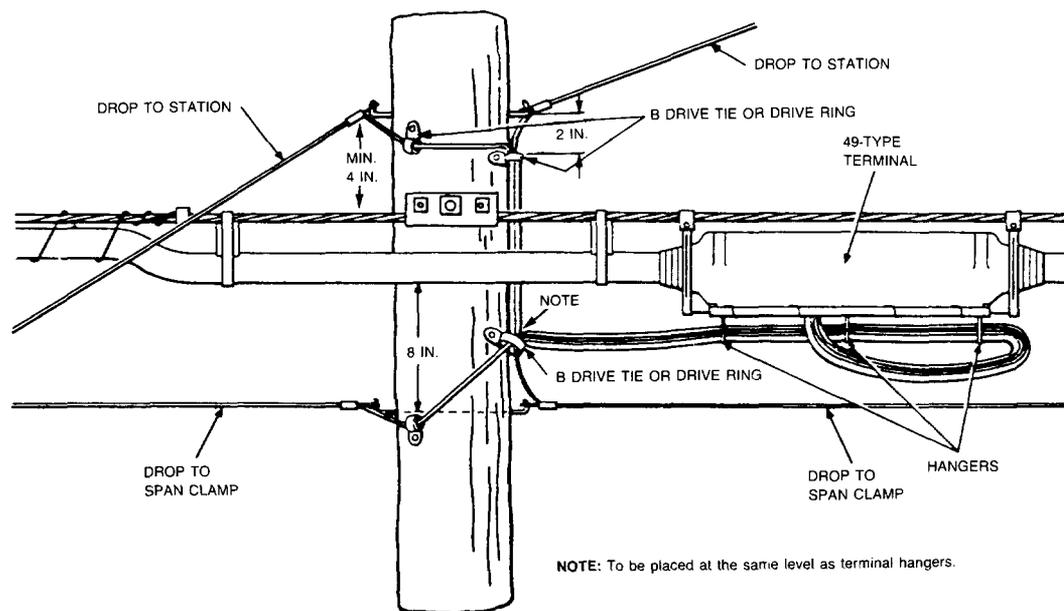

Fig. 3 - Running Drop Wire to 49-Type Terminal at Pole
- 3.07 Refer to Fig. 3, 4, and 5 for typical arrangements of drop wires terminated in 49-type terminals on aerial cable. Limit the number of drop wires in ready access 49-type terminals to eight (8).